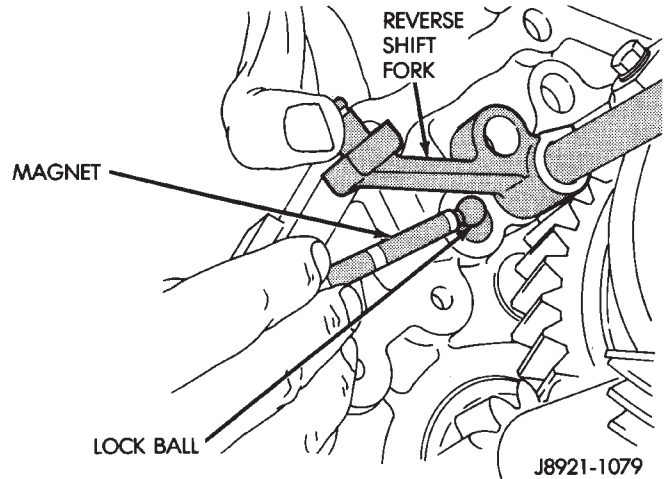

Fig. 68 Remove Fifth Gear Shift Rail Lock Ball
- (20) Retrieve the fifth gear shift rail lock ball from the intermediate plate using a magnet (Fig. 68).